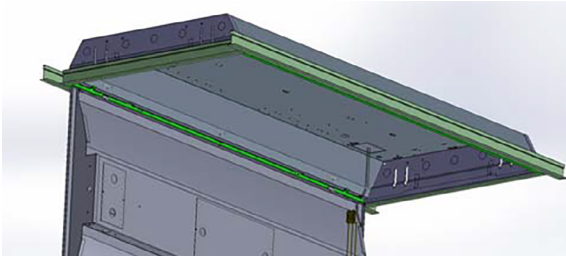

Fig. 1.4
6. Place Light Engine Lens Assembly's hinge pins into the universal frame brackets. You may need to angle the Lens assembly hinge onto already installed Universal Frame Brackets (Fig.1.4).